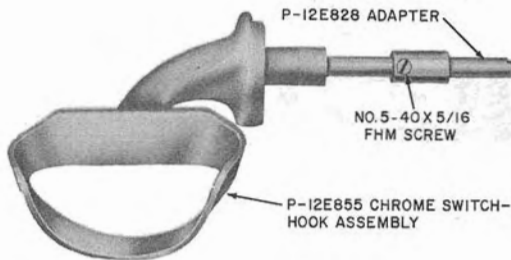

Fig. 24—Two-Piece Switchhook
- (1) Perform operations outlined in 2.32 (1).
(2) Loosen the flathead screw which secures P-12E828 adapter (Fig. 24) to the switchhook shaft.
- (3) Slide switchhooks to left and out of bearing.
- (4) Slide adapter to left and out of bearing.